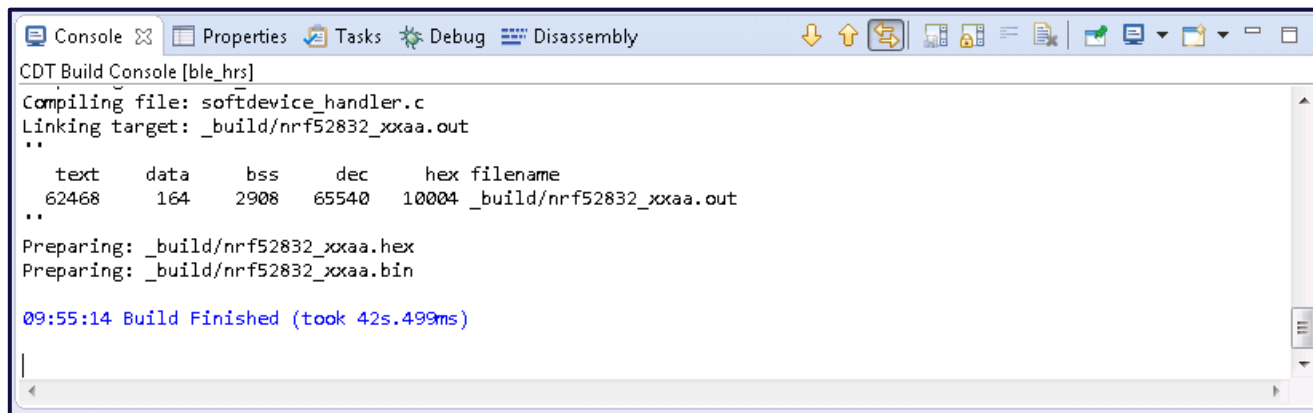

Figure 20: Building the HRS example
13. You can now build the project by clicking **Project > Build All**. Alternatively, click the Build button or **CTRL+B**. Once the project is built, the hex and binary files are generated as shown in the figure below (Figure 20).